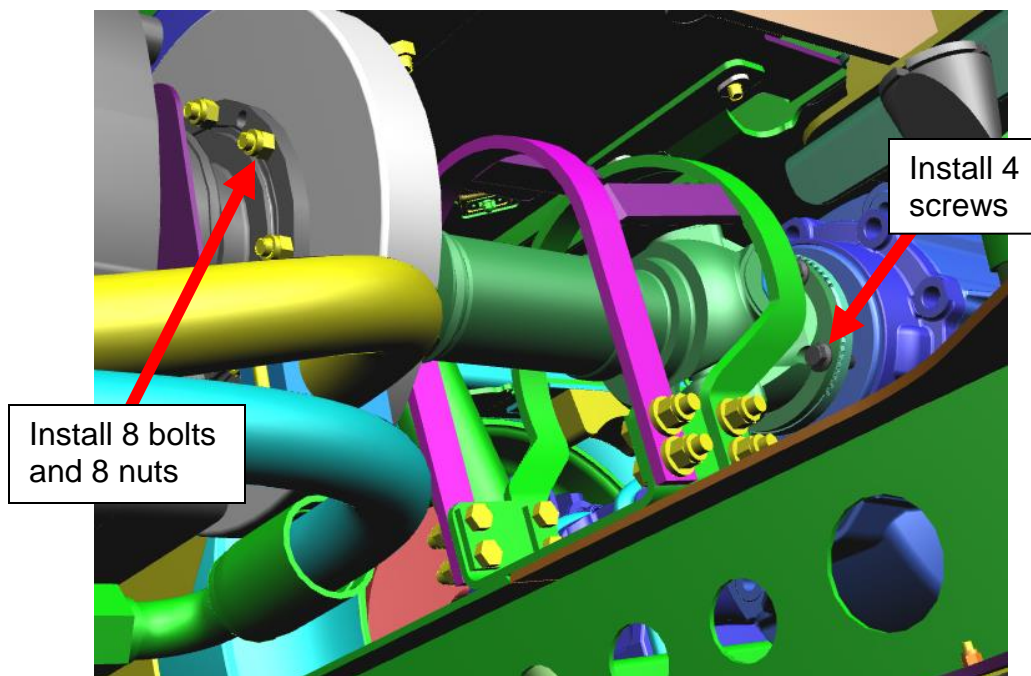

Figure 16: New installed driveshaft on Bus# 1252
9. Mount driveshaft flanges to the traction motor flange and the rear axle flange. Rotate axle for better visibility of hardware. See figure 16.